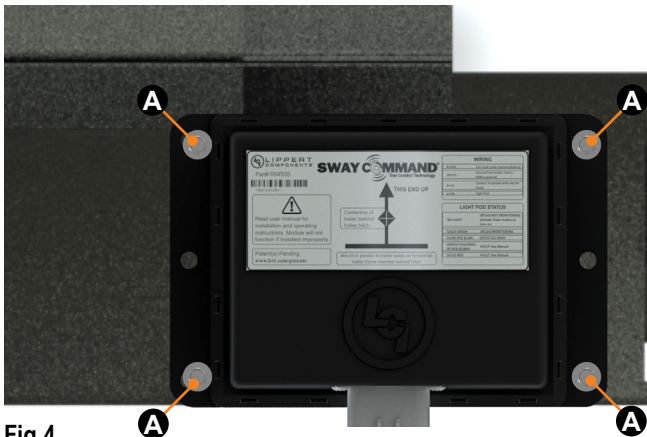

Fig.4
5. Using four #12 x ¾" screws with lock washers (Fig.4A), attach the controller to the crossmember ensuring the orientation is correct (Fig.4).